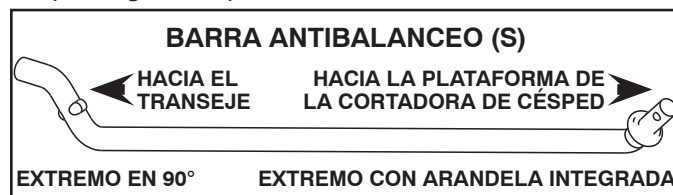

Fig. 31
5. SI LA TIENE, INSTALE LA BARRA ANTIBALANCEO (S) (Vea Fig. 31 - 33)